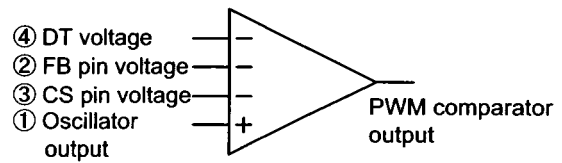
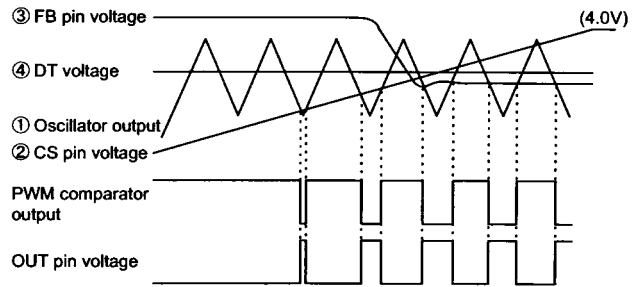

Fig.3 PWM comparator
Fig.4 PWM comparator timing chart
The PWM comparator has four inputs as shown in Figure 3. Oscillator output ① is compared with CS pin voltage ②, FB pin voltage ③, and DT voltage ④. The lowest of three inputs ②, ③, and ④ has priority and is compared with oscillator output ①. While the voltage is lower than the oscillator output, the comparator output is high. While the voltage is higher than the oscillator output, the PWM comparator output is low (see Figure 4). The IC OUT pin voltage is high while the PWM comparator output is low. When the IC is powered up, CS pin voltage ② controls soft start operation. The output pulse then begins to widen gradually. During normal operation, the output pulse width is determined within the maximum duty cycle (FA5510/14:46%, FA5511/15:70%) set by DT voltage ④ under the condition set by FB pin voltage ②, to stabilize the output voltage.